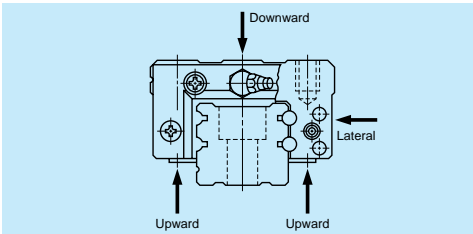

Fig. II-2-3 Radial rigidity
- 1) Radial rigidity: Rigidity of vertical and lateral directions -- up/down and right/left (Fig. II-2-3).